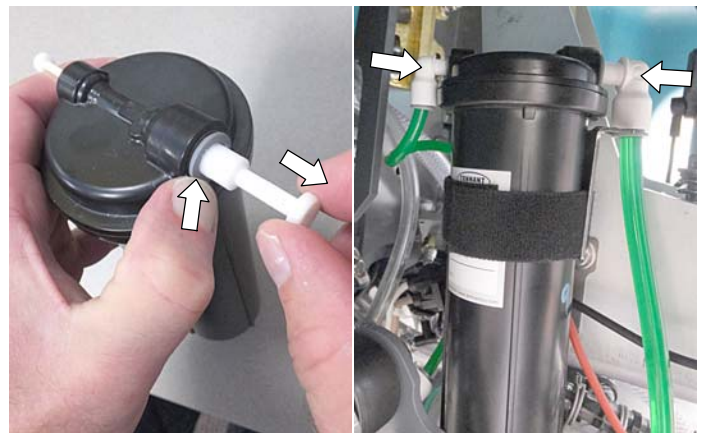

Fig. 65
3. Remove the two plugs from cartridge. Press the gray collars inward and pull plugs outward to remove (Figure 65). Position the cartridge in the cartridge holder bracket as shown, secure with Velcro-strap and connect green hoses to cartridge (Figure 65). Make sure the hose connectors are fully inserted.